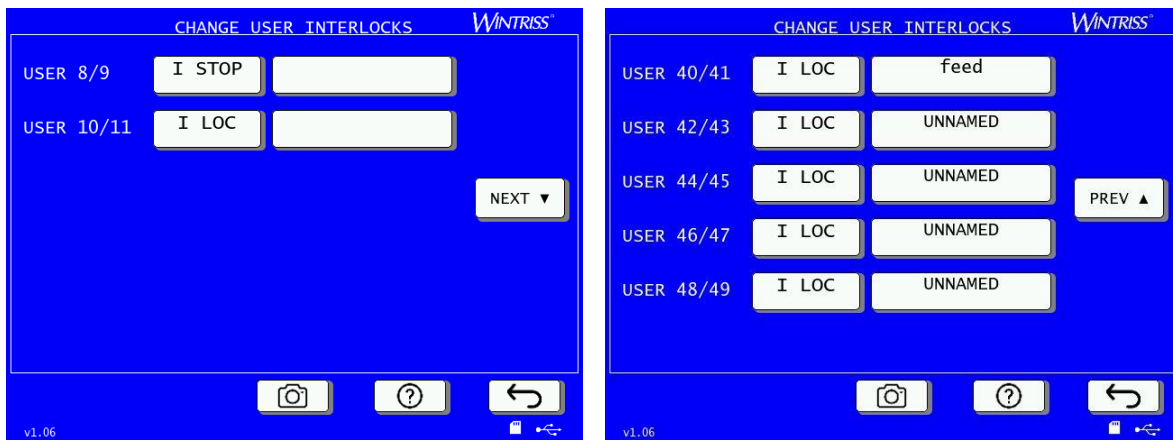

Figure 3-12. Change User Interlocks, 8/9 and 10/11, and 40/41 through 48/49
4. Press USER INTERLOCKS. The Change User Interlocks screen appears, Figure 3-12. You can enter a stop type and name for each. Table 3-3 shows the stop types available for each crosschecked pair and provides a place to record the name. For default stop type, see (see Table 2-3, page 75, and Table 2-4, page 76).